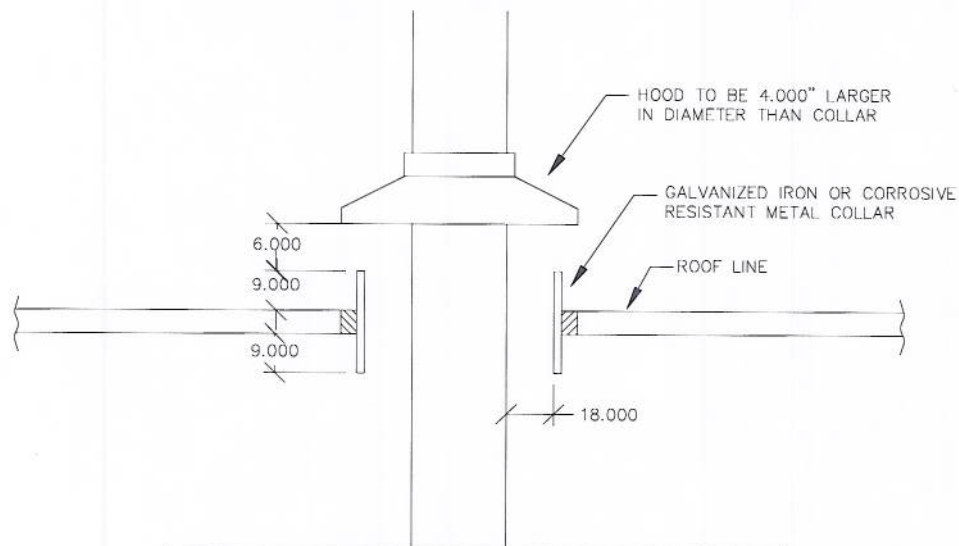

Figure 3: Combustible Roof Construction Diagram
- For recommended construction of a metal chimney through a combustible roof, **See Figure 3: "Combustible Roof Construction Diagram" on page 9**